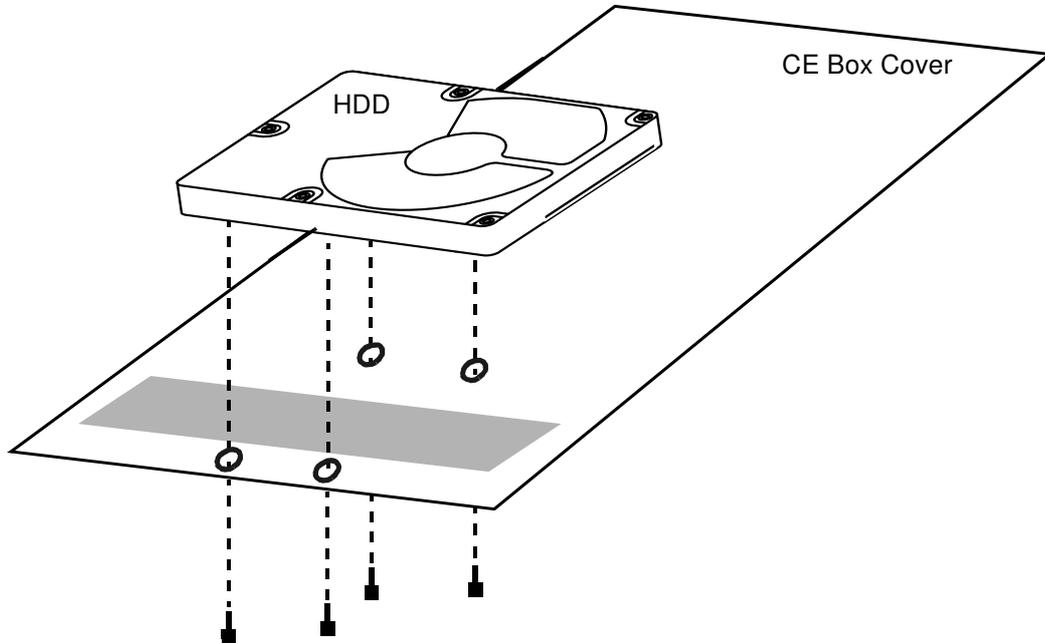

Figure 4-11. Removing the HDD
1. Secure the HDD to the CE box cover using the screws you removed earlier (see Figure 4-11).